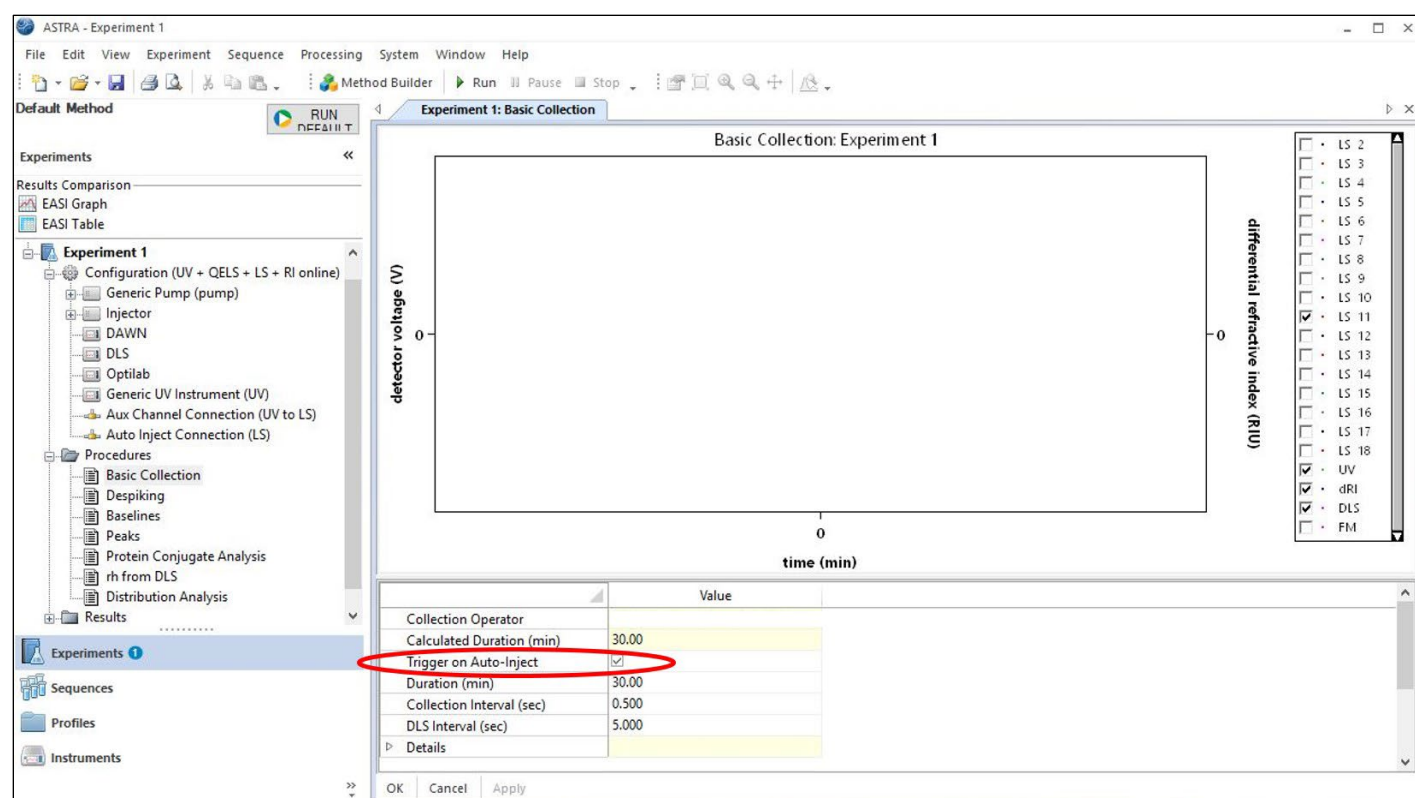

Figure 13. A screenshot of the ASTRA software screen with the *Procedures* node expanded and *Basic Collection* selected.
5. Expand the **Procedures** node in the ASTRA software workspace and double-click on **Basic Collection** (see Figure 13).